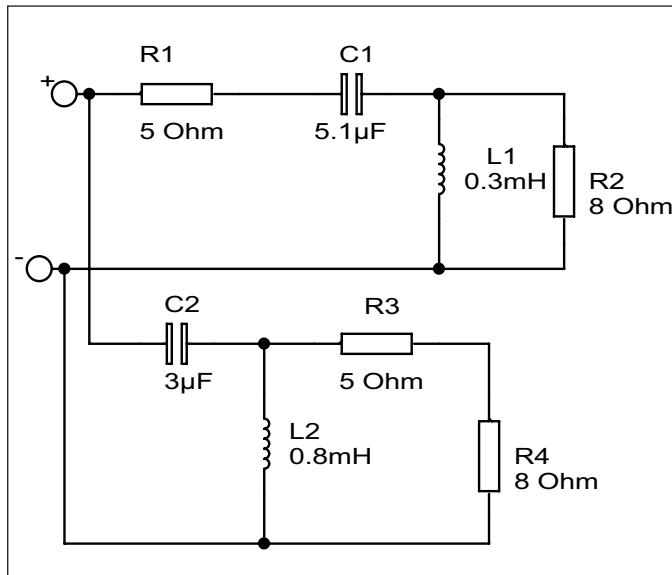
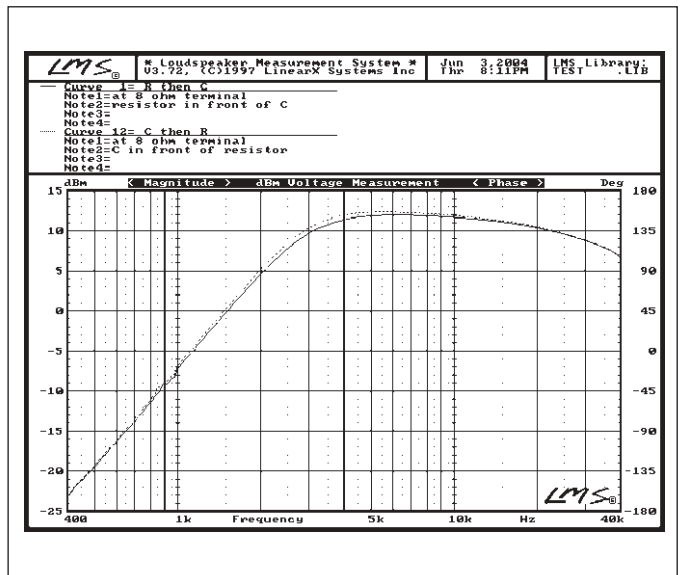

FIGURE 1: Circuit testing effect on resistors.
FIGURE 2: Voltage transfer function measured across R2.
*Since I'm not very adept at analyzing circuits on a theoretical basis, I decided to build the circuit in Fig. 1 and see whether the resistor R1 would experience different levels of power and thus be hotter or cooler than R3. R2 is an 8Ω resistor, which functions as a dummy load, representing a loudspeaker driver. The capacitors and inductors form the familiar second-order network. By carefully choosing values, the transfer functions of the networks are virtually identical. See Fig. 2, which is the voltage transfer function measured across R2 for both cir-*